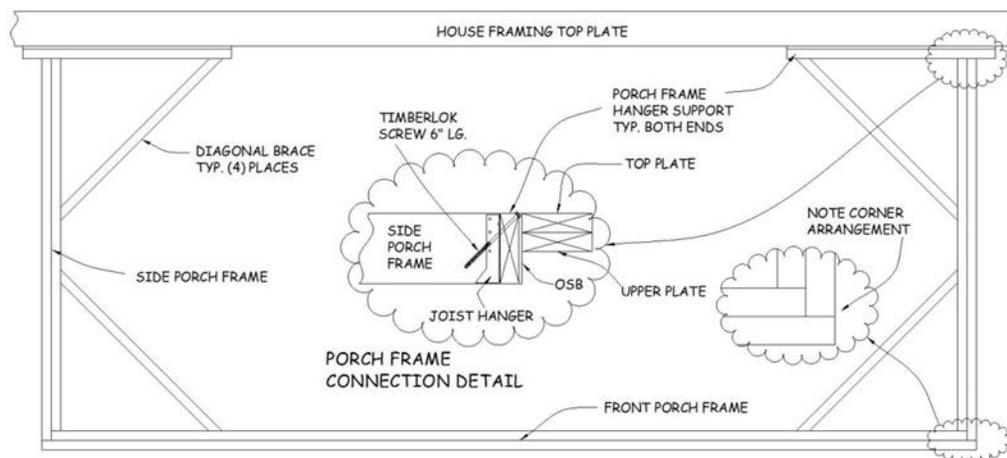

Figure 6-1. Porch Bracing.
2. At both ends of the porch, a horizontal 4' length of 2x6 will be attached to the outside of the exterior wall as shown in Figure 6-1. The 2x6 will be flush with the top plate, with the outside end aligned to the edge-of-concrete mark made in Step 1. If there is OSB and ½" foamboard attached to the wall where the 2x6 will be attached, hold the 2x6 in place against the foam and trace around it. Cut and remove the section of ½" foamboard at the traced lines. If there is 1" foamboard attached to the wall cut out the section where the 2x6 will go. In this latter case, attach a ½" x 5½" x 4' piece of OSB to the stud wall using 8d nails and then attach the 2x6 over that. This will ensure that both of the porch frame depth dimensions will be equal
assembly, use a 2x4 or 2x6 block to ensure a 1½” offset. Nail the two pieces together with ¾” Paslode nails every 12” at an angle so points do not protrude. Take each 2x6 pair and place the flush end into the joist hanger. Make sure the shorter 2x6 faces the center of the porch. Stand a 2x4 (temporary post) on end on the concrete 6” from the unsupported end. Level the 2x6s and clamp and nail the 2x4 to it with two 16d duplex nails. Holding the flush end tight to the house, drive a 6” TimberLok screw through the 2x6 joist hanger support into the ends of each of the side porch frame 2x6s (see detail in Figure 6-1). Then, toenail into it through the 2x6 joist hanger support with 16d nails.
8. At the house wall, measure the distance between the two outside faces of the end pieces. Cut one 2x6 to this length, and one 3” shorter. Lift the shorter of the two into place and nail it to the ends of the inside 2x6 end pieces, keeping the ends flush top and bottom, and the outside end pieces tight. Nail the longer of the two pieces to the ends of the outside end pieces, keeping the ends flush with the outside face of the end piece (see Figure 6-1). Use three ¾” Paslode nails at each joint. Nail the 2x6 pairs together with three ¾” Paslode nails every 24” along the length of the headers. Use a clamp or other method to keep the top and bottom edges flush. Put the nail in at an angle to be sure the points do not protrude.
9. Cut four 2x6 pieces about 40” long to be used as diagonal braces, after checking the length required. Cut a 45° bevel on each end. These will be installed diagonally in all four inside corners of the porch framing to hold them square (see Figure 6-1).